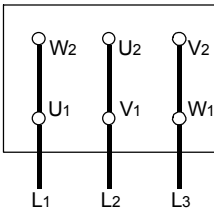

Fig. 7a.  $\Delta$  - connection
- The mains connection on the tagboard depends on the nominal power of the motor, the power supply and the type of connection. The necessary connection of the bridges in the terminal box is shown in the following (Table 1. and Fig. 7a, 7b, 7c).